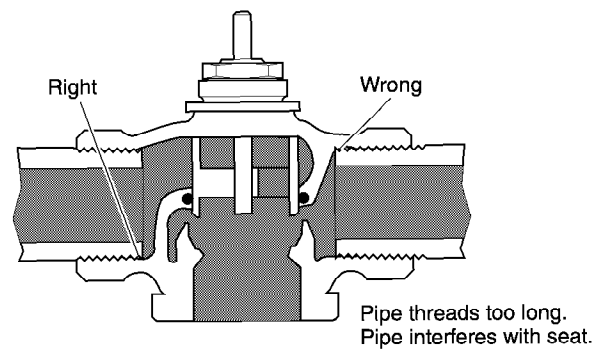
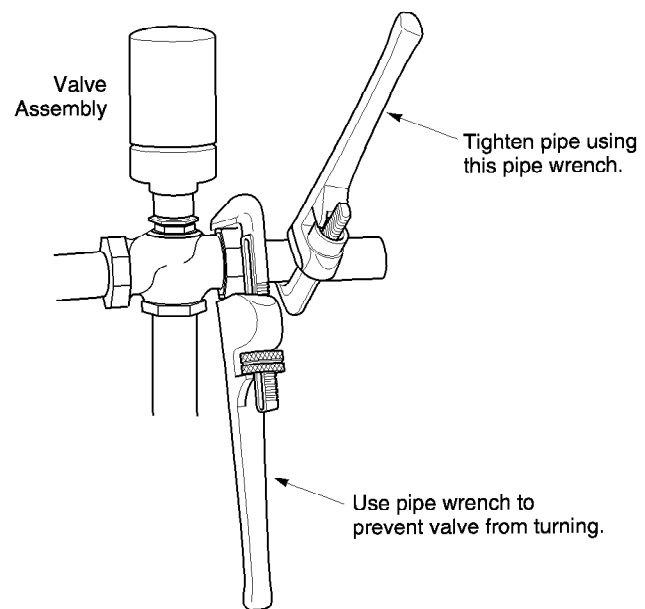

Figure-2 Normal Thread Engagement.
Figure-3 Installation of Screwed End Valves.
3. Use a pipe wrench to fully tighten the valve to the pipe. Do not over tighten or strip threads. See Table-6 and Figure-2 for the normal engagement length of the threads. Figure-3 shows a means of tightening the pipe so that the valve is not twisted or crushed.